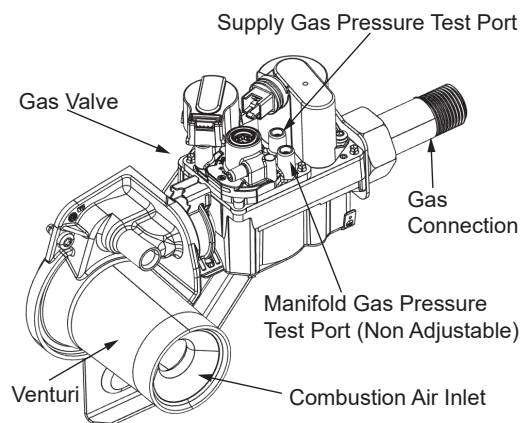
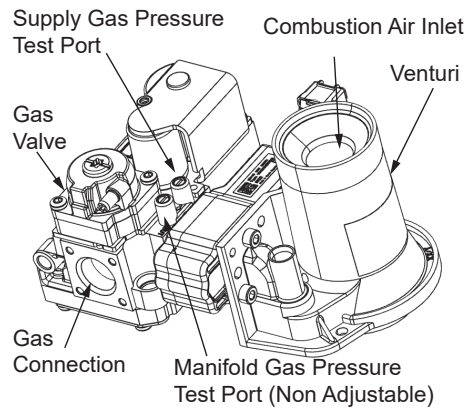

Figure 8. 60 Gallon PX52 - Gas Valve Assembly
Figure 9. 100 Gallon VK - Supply Gas Line Connection
- There are two pressure test ports on the water heater's Gas Valve Assembly, see **Figure 8 and Figure 9** (page 11). There is a needle valve in each test port that is opened/closed with a small, flat-tip screwdriver for 100-gallon models and a T10 Torx for the 60 and 119-gallon models. Turn the needle valve counterclockwise to open the test port valve and clockwise to close it.